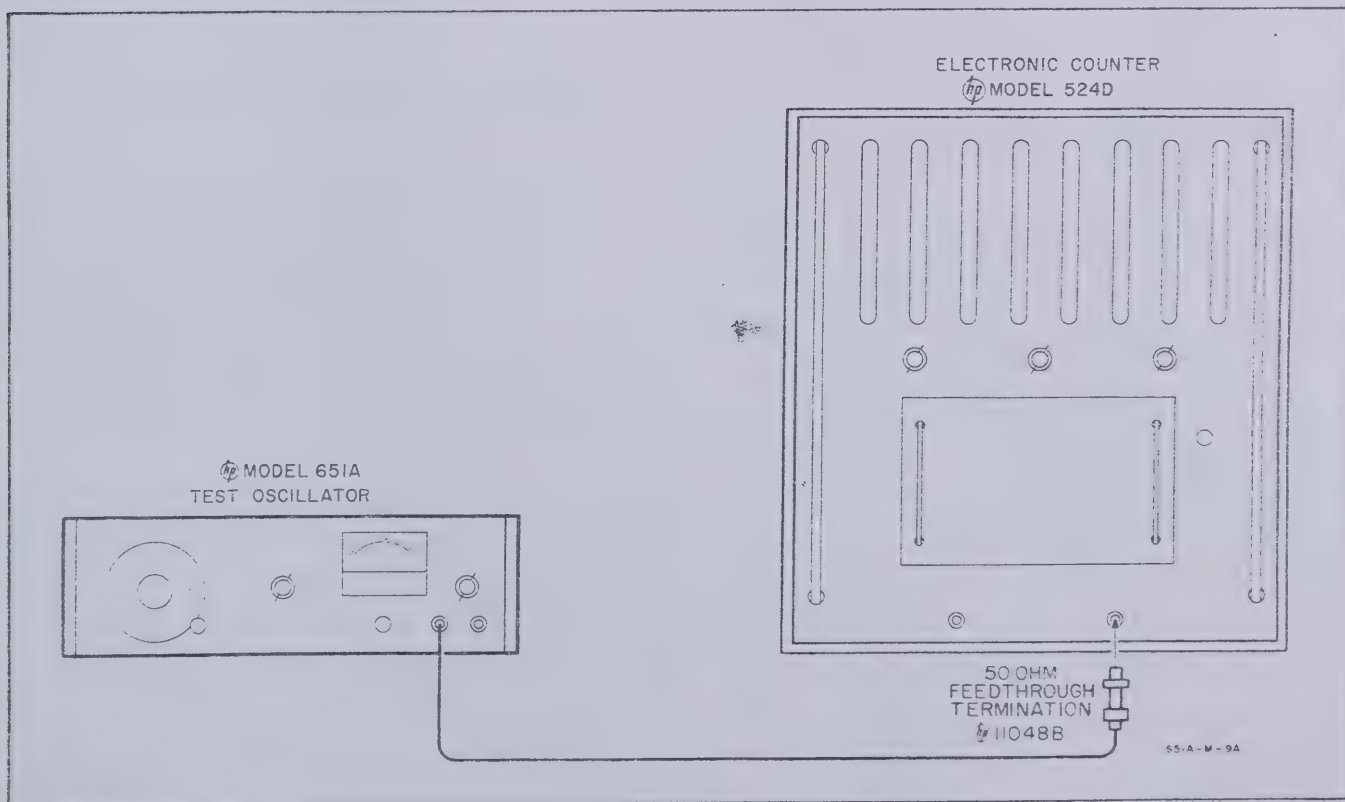

Figure 5-1. Dial Accuracy Check
- a. Connect Model 651A as shown in Figure 5-1.